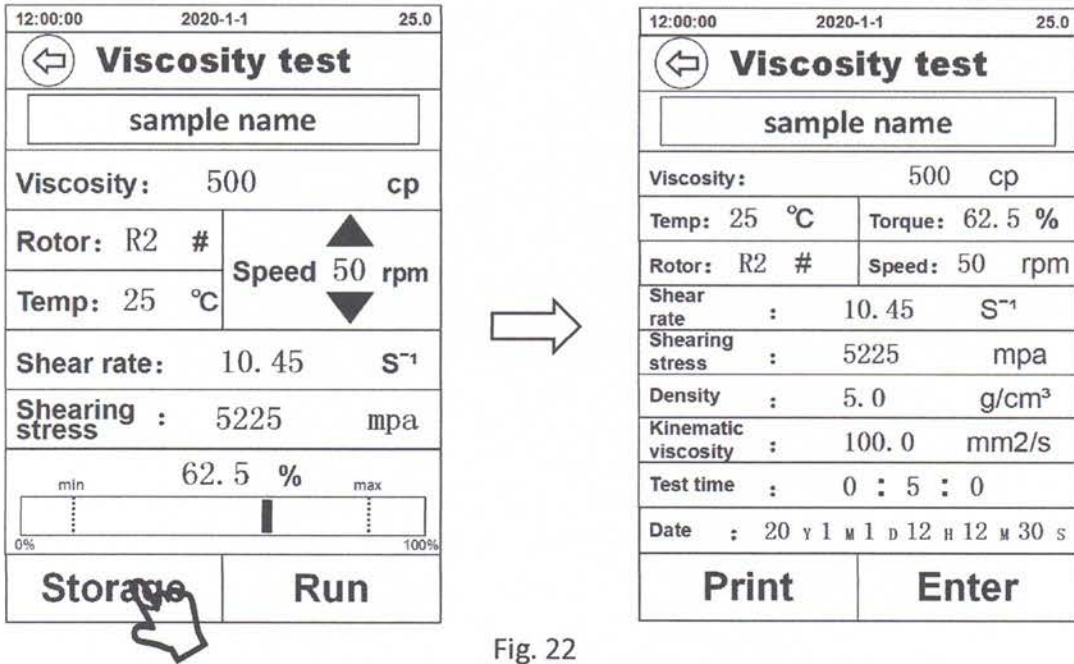

Fig. 22
6) End the test: After finishing the test, click "Stop" to enter the test data interface (Fig.22), click "Storage" to enter the save preview interface, click "Enter" to save the test record to the instrument memory, and click "Print" Data can be printed out by connecting an external printer.